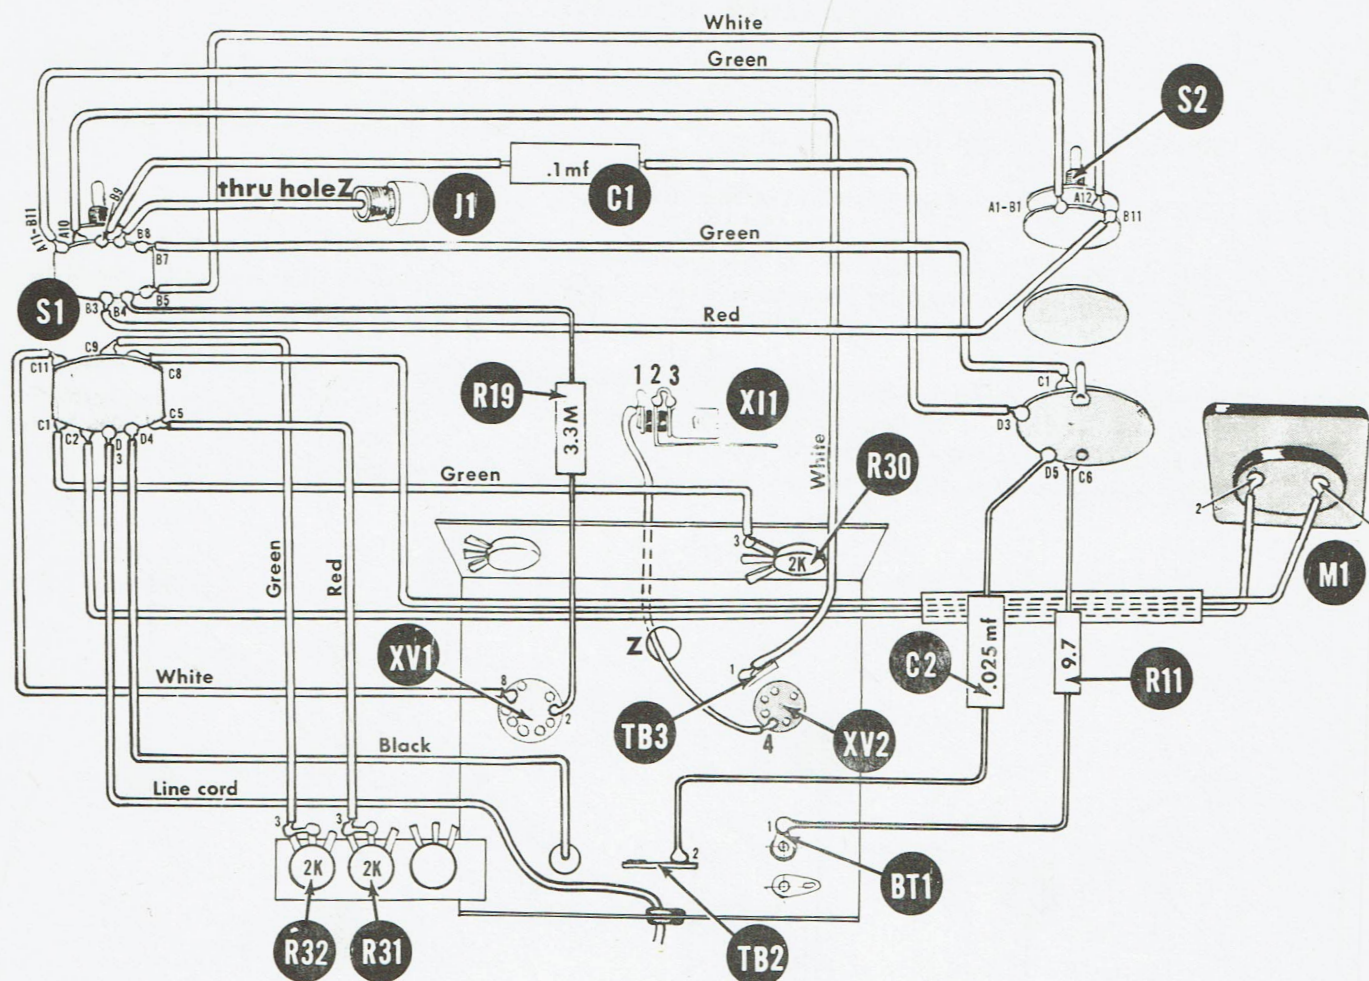

Fig. 7
- (✓) Fig. 7. Connect the 3.3M Ω resistor R19 from XV1-2 to S1-B4 (S).
- (✓) Fig. 7. Connect the white wire from XV1-8 to S1-C11 (S).
- (✓) Fig. 7. Connect the white wire from TB3-1 to S1-A10 (S).
- (✓) Fig. 7. Connect the white wire from XV2-4 to X11-1 (S). Pass lead thru hole "Z".
- (✓) Fig. 7. Connect a short length of bare wire from X11-2 (S) to X11-3 (S).
- (✓) Fig. 7. Connect the red wire from R31-3 to S1-C5 (S).
- (✓) Fig. 7. Connect the green wire from R32-3 to S1-C9 (S).
- (✓) Fig. 7. Connect the free lead of the line cord to S1-D3 (S).
- (✓) Fig. 7. Connect the black lead of power transformer T1 to S1-D4 (S).
- (✓) Fig. 7. Connect the green wire from R30-3 to S1-C1 (S).
- (✓) Fig. 7. Connect a 11 in. length of red hook-up wire from M1-2 (S) to S1-C2 (S). Pass lead thru large insulating sleeve.
- (✓) Fig. 7. Likewise, connect a 12 in. length of green hook-up wire from M1-1 (S) to S1-C8 (S).
- (✓) Fig. 7. Connect one end of the length of high-voltage wire to S1-B8 (S). Pass other end thru hole "Z" in chassis and to J1 (S). (Pass stripped end thru jack and solder to metal ring in center of plastic.)
- (✓) Fig. 7. Mount the prewired range switch S2 to the panel. Switch is in correct position when lug F points to top of panel.
- (✓) Fig. 7. Connect the green wire from S2-A1 - B1 to S1-A11 - B11 (S).
- (✓) Fig. 7. Connect the white wire from S2-A12 to S1-B5 (S).
- (✓) Fig. 7. Connect the red wire from S2-B11 to S1-B3 (S).
- (✓) Fig. 7. Connect the green wire from S2-C1 to S1-B7 (S).
- (✓) Fig. 7. Connect the .1 mf capacitor C1 from S2-D3 to S1-B9 (S).
- (✓) Fig. 7. Connect the .025 mf capacitor C2 from S2-D5 to TB2-2 (S).
- (✓) Fig. 7. Connect the 9.7 Ω resistor R11 from S2-C6 to BT1-1 (S).